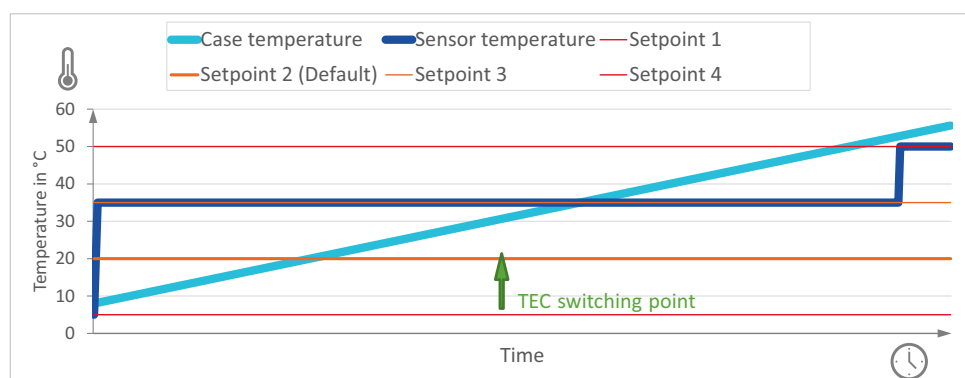

Figure 65: Schematic figure of TEC heating and cooling.
required to cool the sensor. The green arrow in Figure 65 shows this situation. Note for better understanding the case temperature profile is shown in a simplified way that covers the whole temperature range.
- set to **Auto**, the TEC is able to switch to a higher setpoint, if it exists, as shown in Figure 65.